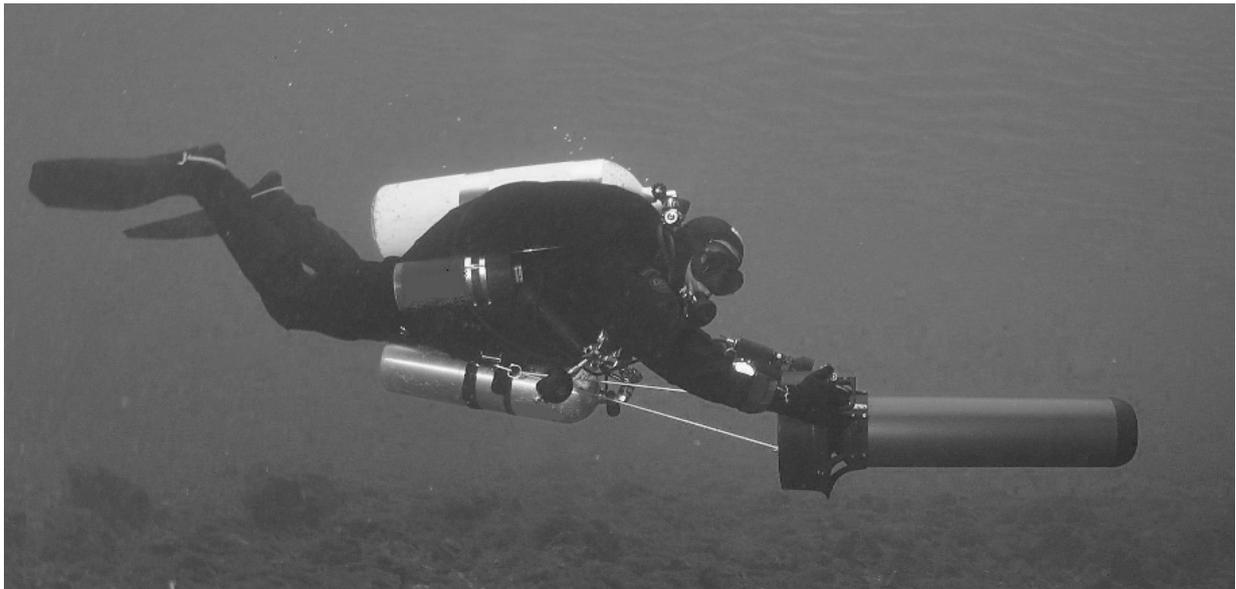

Figure 8
**Diver position** Fig. 8 illustrates a driver in technical configuration with the ADV correctly positioned. Other positions are admitted but considerably reduce drive efficiency. Tow cord length is extremely important for good towing efficiency. The right arm should remain slightly bent, drive the scooter by pointing it in the direction to be followed but never hold the ADV which exerts all drive force on the tow cord.